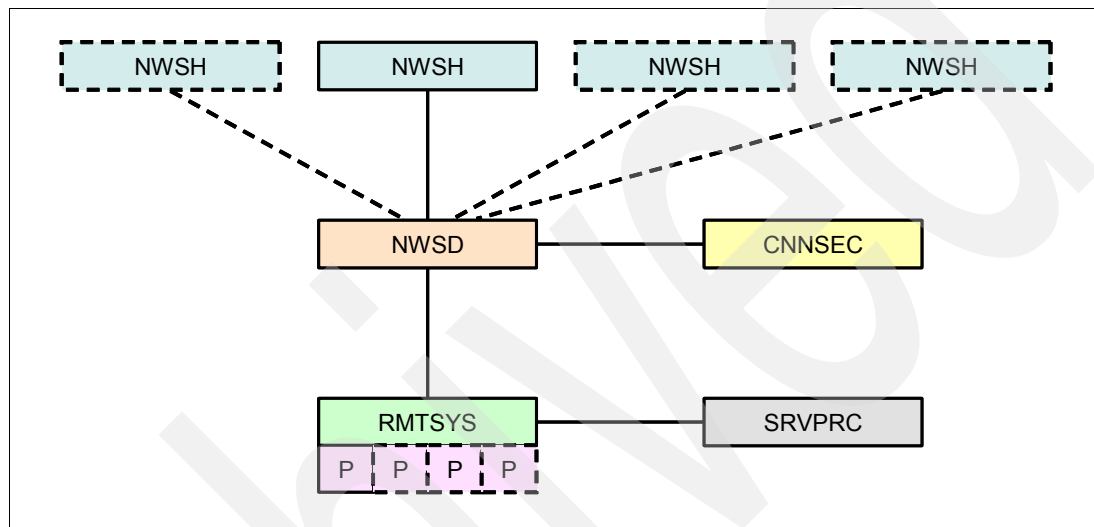
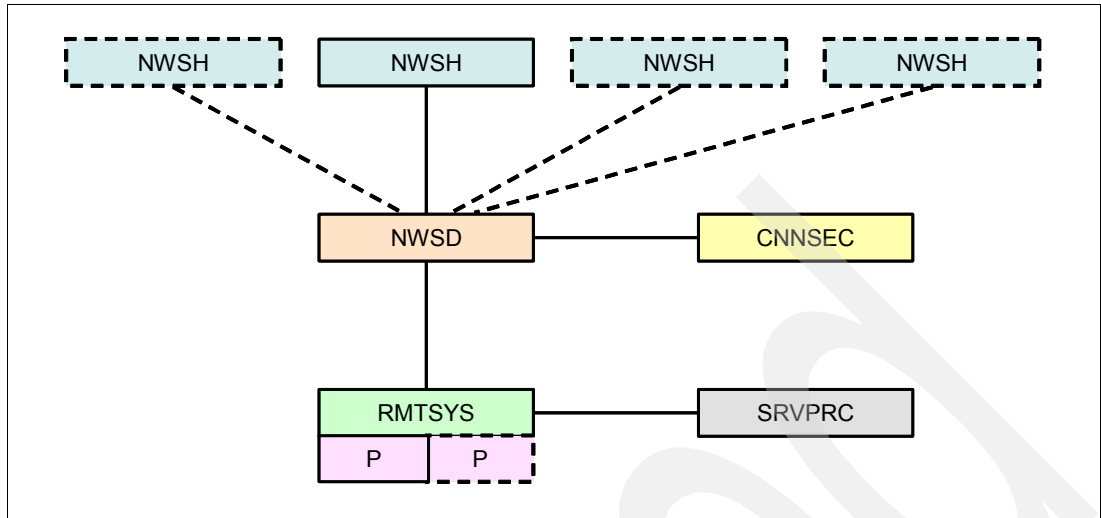

Figure 2-12 Object relationships for a single hosted server
Figure 2-13 Object relationships for multiple hosted servers: Blade server
Figure 2-12 shows how you can have multiple target HBAs (NWSHs) connected to a single hosted server (NWSD).
Note the following important points shown in Figure 2-12:
- You can add up to four target HBA connections to a single hosted xSeries server. You would also probably want to add additional initiator HBA ports, designated by “P” in Figure 2-12 to balance the bandwidth between the i5/OS partition and hosted server connections.
Figure 2-13 on page 22 is the same as Figure 2-12, but for a Blade server. The same comments apply, except that you can have a maximum of only two initiator HBA ports in a Blade server.